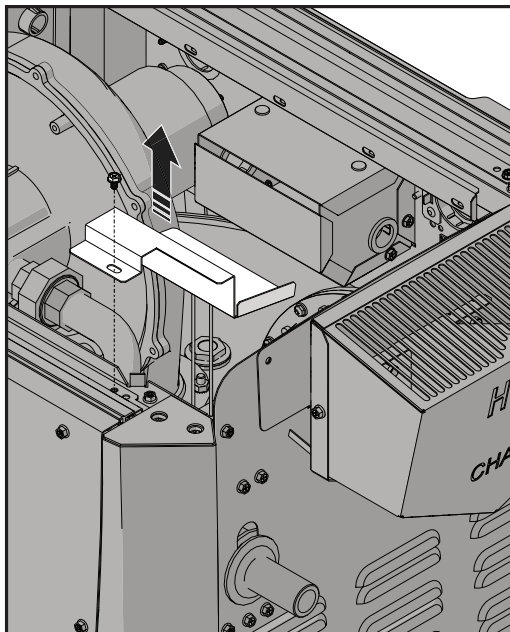

Figure 25. Remove Gas Valve Bracket
7. Remove one screw to take off gas valve bracket (Figure 25).